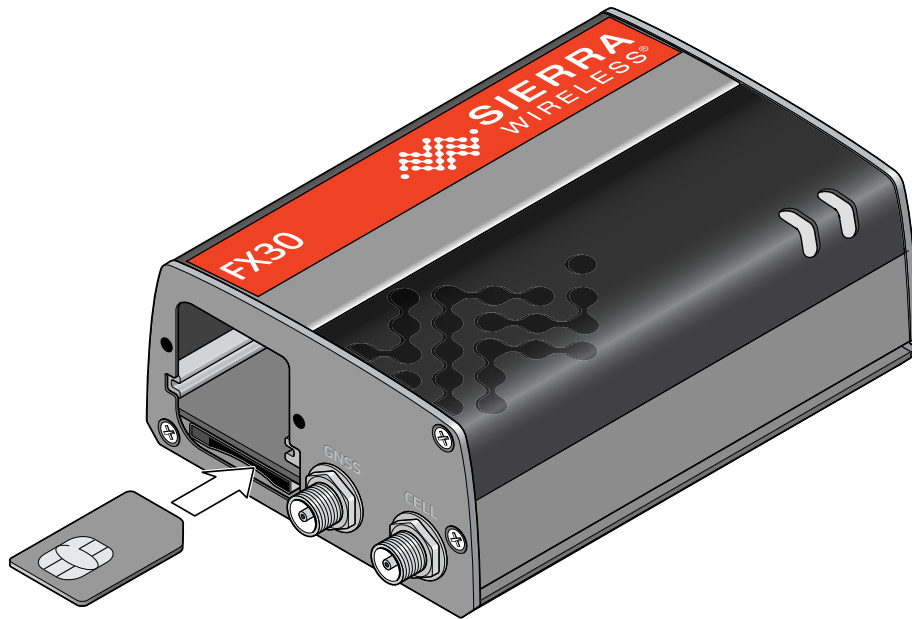

Figure 2-1: Installing the SIM Card
2. Orient the SIM card, as shown in Figure 2-1. The gold contacts on the SIM card face up.